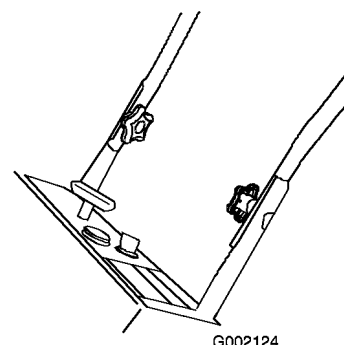

Figure 3
2. Insert the oval-head bolts into the aligned holes, with the bolt heads on the outside of the handle. (Figure 3).